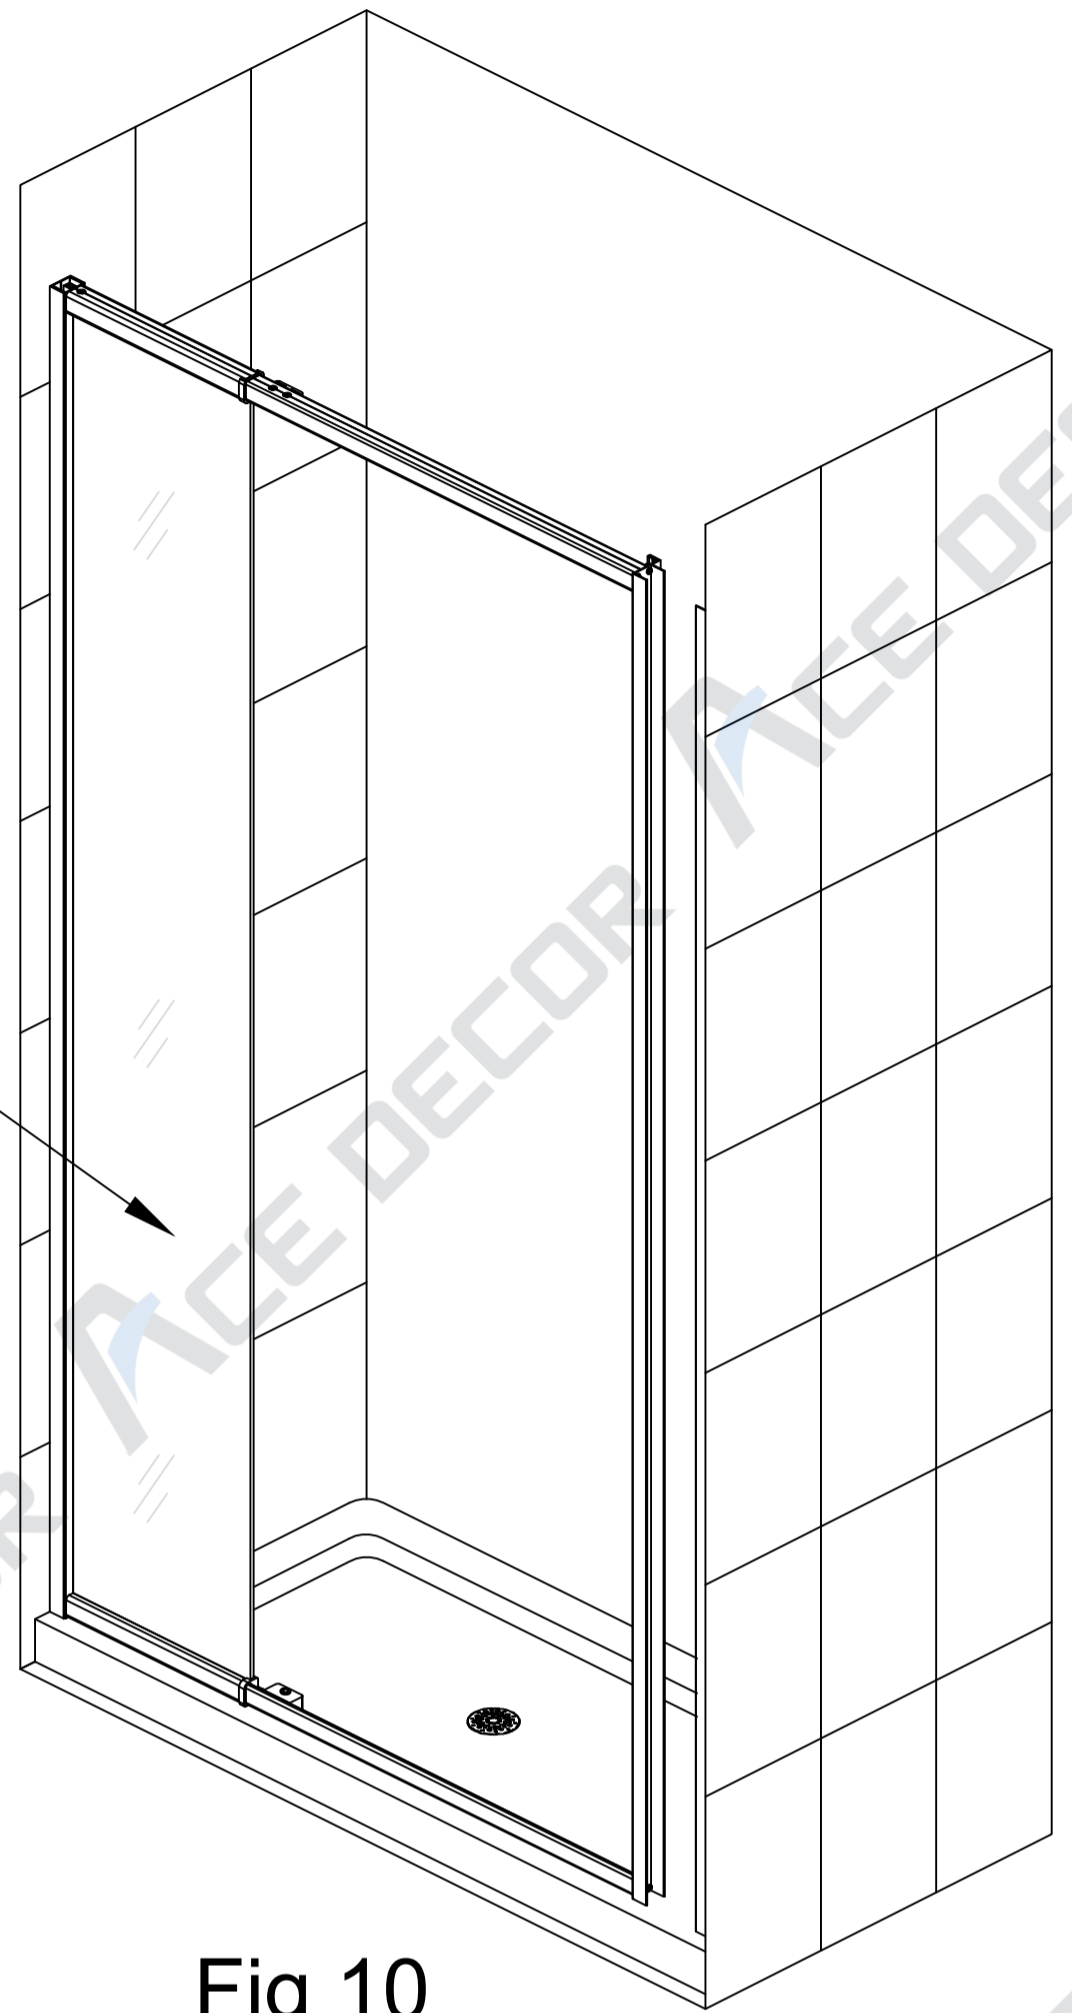

Fig 10
Place the Door Assembly back onto the threshold, and first place the side with the panel into the **Wall Jamb (D)**. (Fig 10)